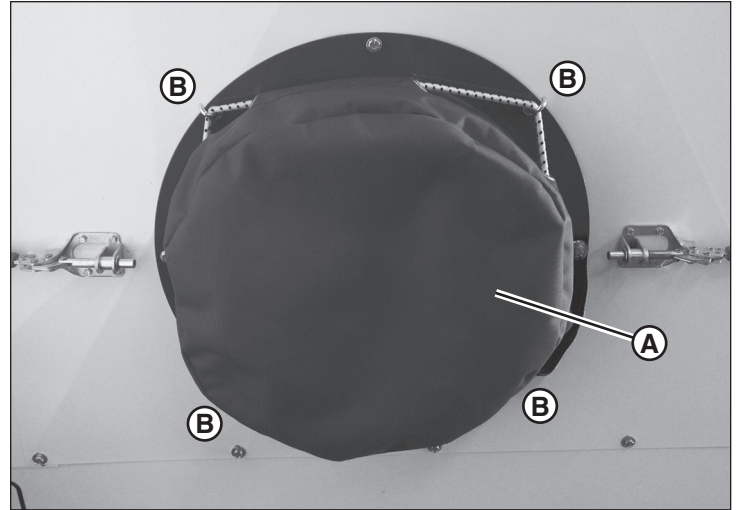

Figure 15
7. Remove the canvas covers (A, Figure 15) from the heater intake ducts and the heater discharge duct. Unhook the elastic cover cord from the four corner hooks (B), and slip the cover from the heater duct. (The cover is attached by a lanyard to the heater trailer.)